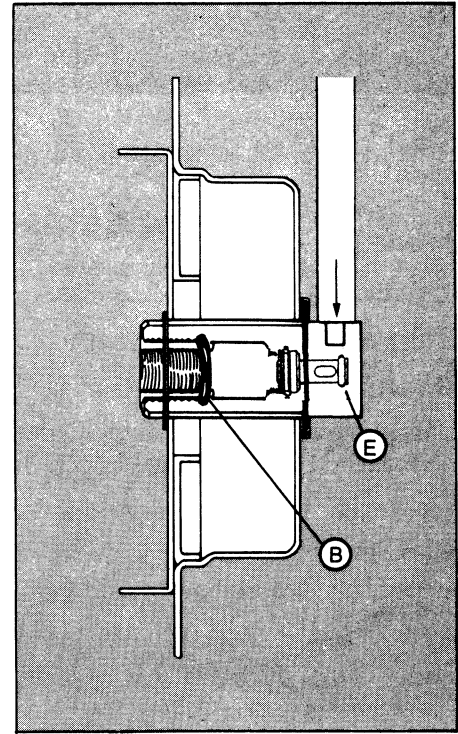

FIGURE 3
When the primary valve body is removed for inspection and servicing, line gas pressure forces the secondary check valve (E) tight against the seat, sealing the gas against loss during the period of maintenance - Figure 3.
3. Remove the two Phillips head face plate screws (item 12) and take off the face plate.
4. Examine the face plate latch springs (item 11) and replace them if loose.
5. Examine the face plate (item 10) and replace it if bent or distorted.
6. Remove the valve body (item 8) by turning it counterclockwise until it is separated from the housing. When the valve body is removed from pressure gas services, the secondary check valve assembly (item 4A) is released, and line pressure forces the secondary check valve (item 4A) against the seat. This seals gas or air from escaping during inspection and maintenance. Inspect the secondary check valve (item 4A) for proper seating. If the seating is incomplete follow instructions in note 10. (See figure 3.) Examine valve body (item 8) for signs of distortion or wear at the entry port or for worn uneven screw threads. Replace if necessary, otherwise replace the valve body O-ring (item 9) using the O-ring which has been lubricated lightly with Chemetron O-ring lubricant (part no. 64-90-2111).
7. Remove the poppet (item 6) and examine it for wear, distortion or contamination. Replace it if necessary. Otherwise, replace the Poppet O-ring (item 7), first lubricating it lightly with Chemetron O-ring lubricant (Part # 64-90-2111).
8. Insert vacuum spring (item 13) and replace if necessary. Set aside until reassembly.
9. Remove and replace the housing O-ring (item 5), lubricating lightly as indicated above.
10. Remove the secondary check valve (item 4A) with insertion tool, (part no. 64-90-2050). (See figure 3). **WARNING: BEFORE REMOVING SECONDARY VALVE, SHUT OFF THE GAS FLOW, SERVING THE OUTLET STATION, AT THE NEAREST ZONE VALVE BOX. BE SURE TO CHECK WITH OTHER DEPARTMENTS ON THE SUPPLY LINE, SO THAT IN SERVICE OPERATIONS ARE NOT INTERRUPTED.**
11. Examine the secondary check valve assembly (item 4A). Replace if necessary. Lightly lubricate the replacement O-rings before assembly, with 64-90-2111 lubricant.
12. Reinstall the secondary check valve assembly into the block with the large end facing out using the insertion tool (part no. 64-90-2050). (See Figure 3).
13. Reassemble all the components in reverse order of disassembly. Make sure the O-rings are seating, and the unit is satisfactorily assembled at each stage. When reinstalling the valve body, turn the body past the housing O-ring (item 5), rather than pushing it, to assure that the O-ring is not unseated. Turn the valve body clockwise into the housing until the valve body flanges are even with the finished wall. The valve body may be turned outward to compensate for up to 3/8" variation in the wall thickness.